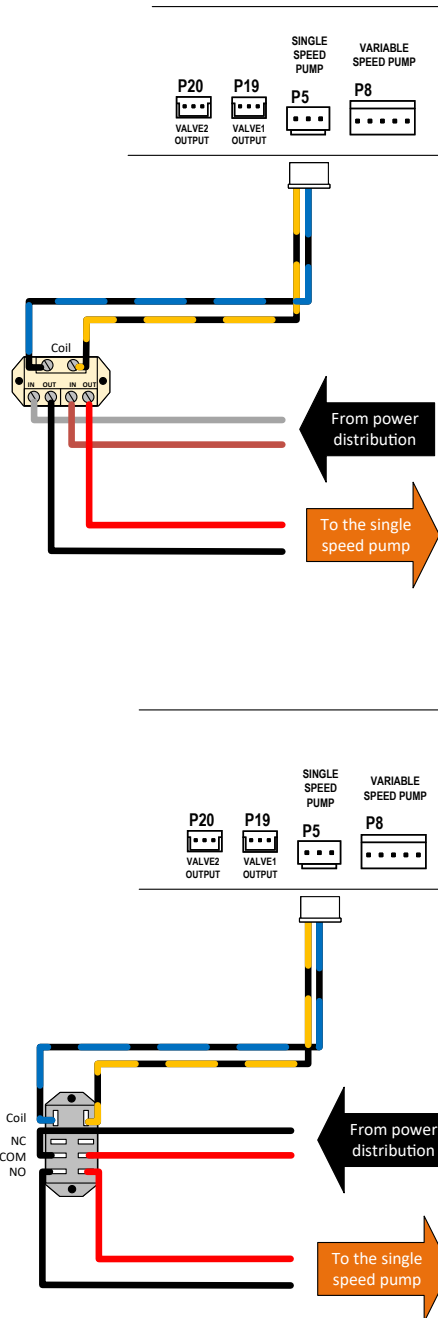

Figure 137. 24VAC Relay Wiring
- Use the harness adapter supplied in the accessory bag labeled as “single-speed pump” to connect the field-supplied relay to the terminal of the control board marked as “PUMP” [P5]. Connect the other end of the harness to the coil terminals of the relay, as shown in Figure 137.
- Connect the wires coming from the pump and the power distribution box to the relay contact terminals, as shown in Figure 137.